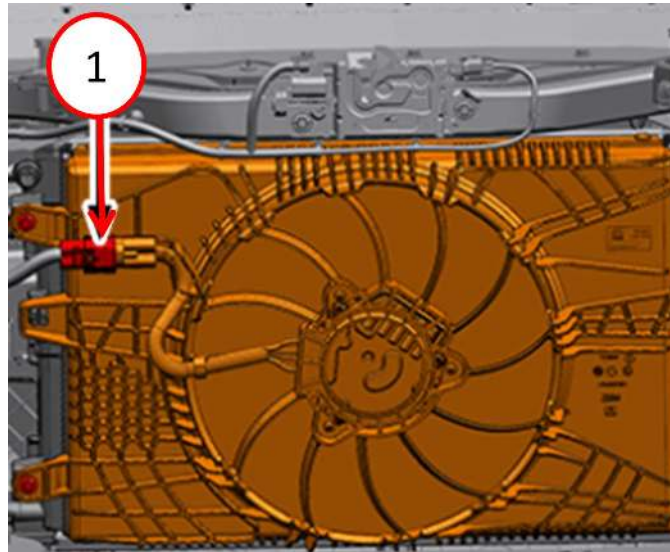

Fig. 1
4. Disconnect the cooling fan wire harness connector Fig . 1**.
21. **Connect the cooling fan wire harness connector Fig . 1.